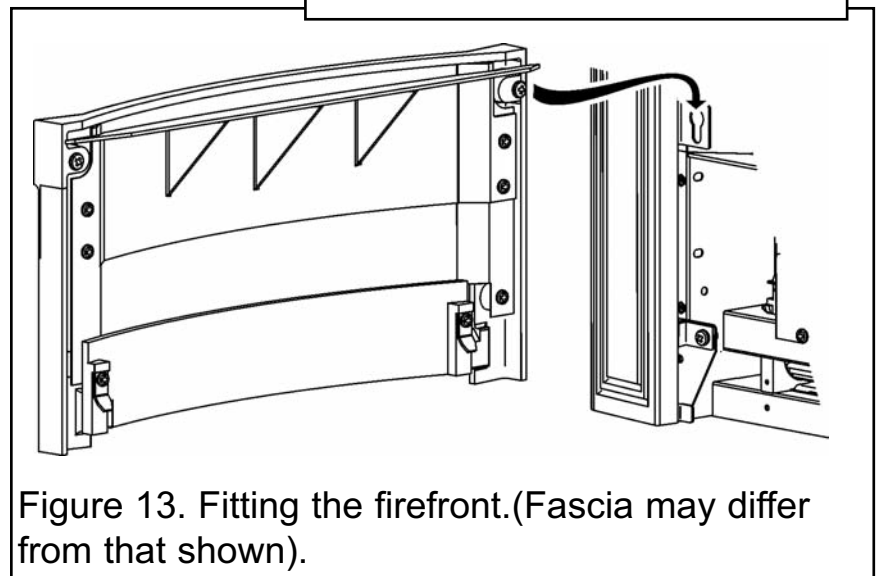

Figure 13. Fitting the firefront.(Fascia may differ from that shown).
3. The rear of the firefront has two screws that locate into 'keyhole' brackets on the heater (See figure 13).
4. There are two hanging screws on the rear of the firefront. Locate these into the slots as in figure 13. If required, the screws can be adjusted, to aid installation.